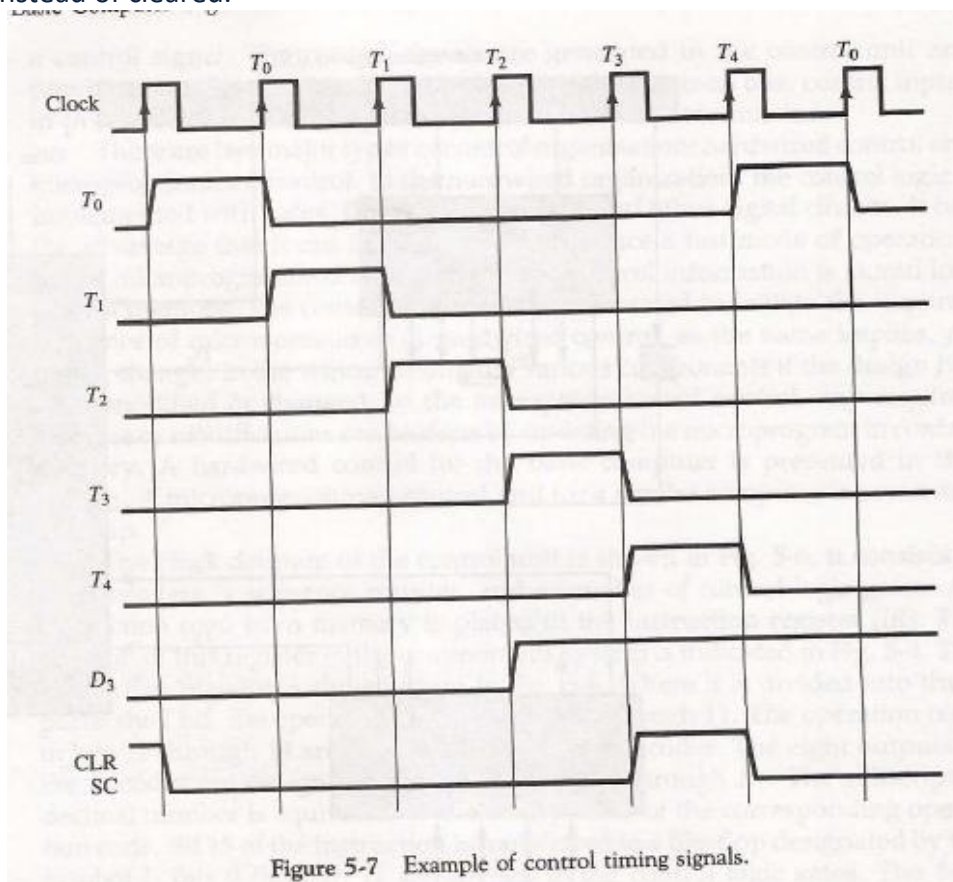

Figure 5-7 Example of control timing signals.
- The timing diagram of Fig. 5-7 shows the time relationship of the control signals.
- The last three waveforms in Fig.5-7 show how  $SC$  is cleared when  $D_3T_4 = 1$ .